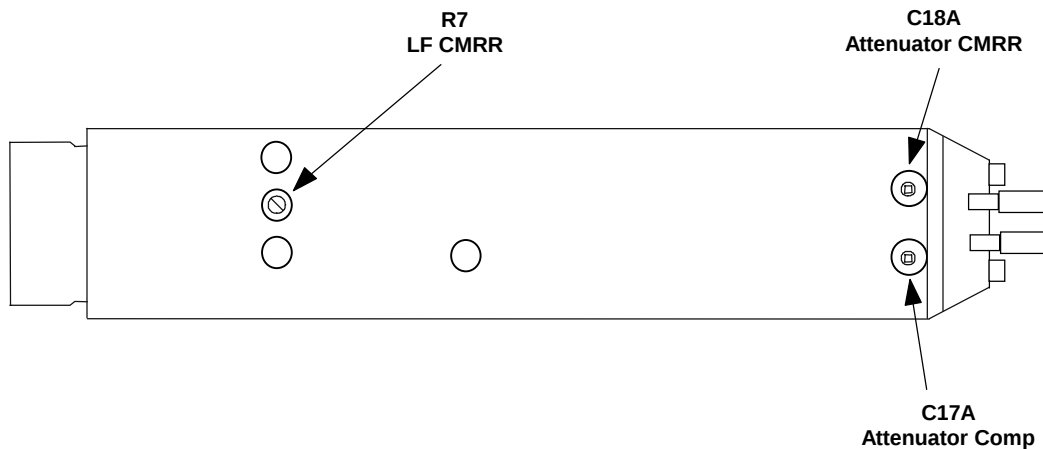

Figure 12. Probe Tip Adjustment Locations
11. Adjust **LF CMRR** (R7) for minimum amplitude. (See Figure 12 for location.)
7. Using the 0.25 in. square adjustment tool, adjust **Attenuator Comp** (C17A) for a flat top waveform. (See Figure 12 for adjustment location.)